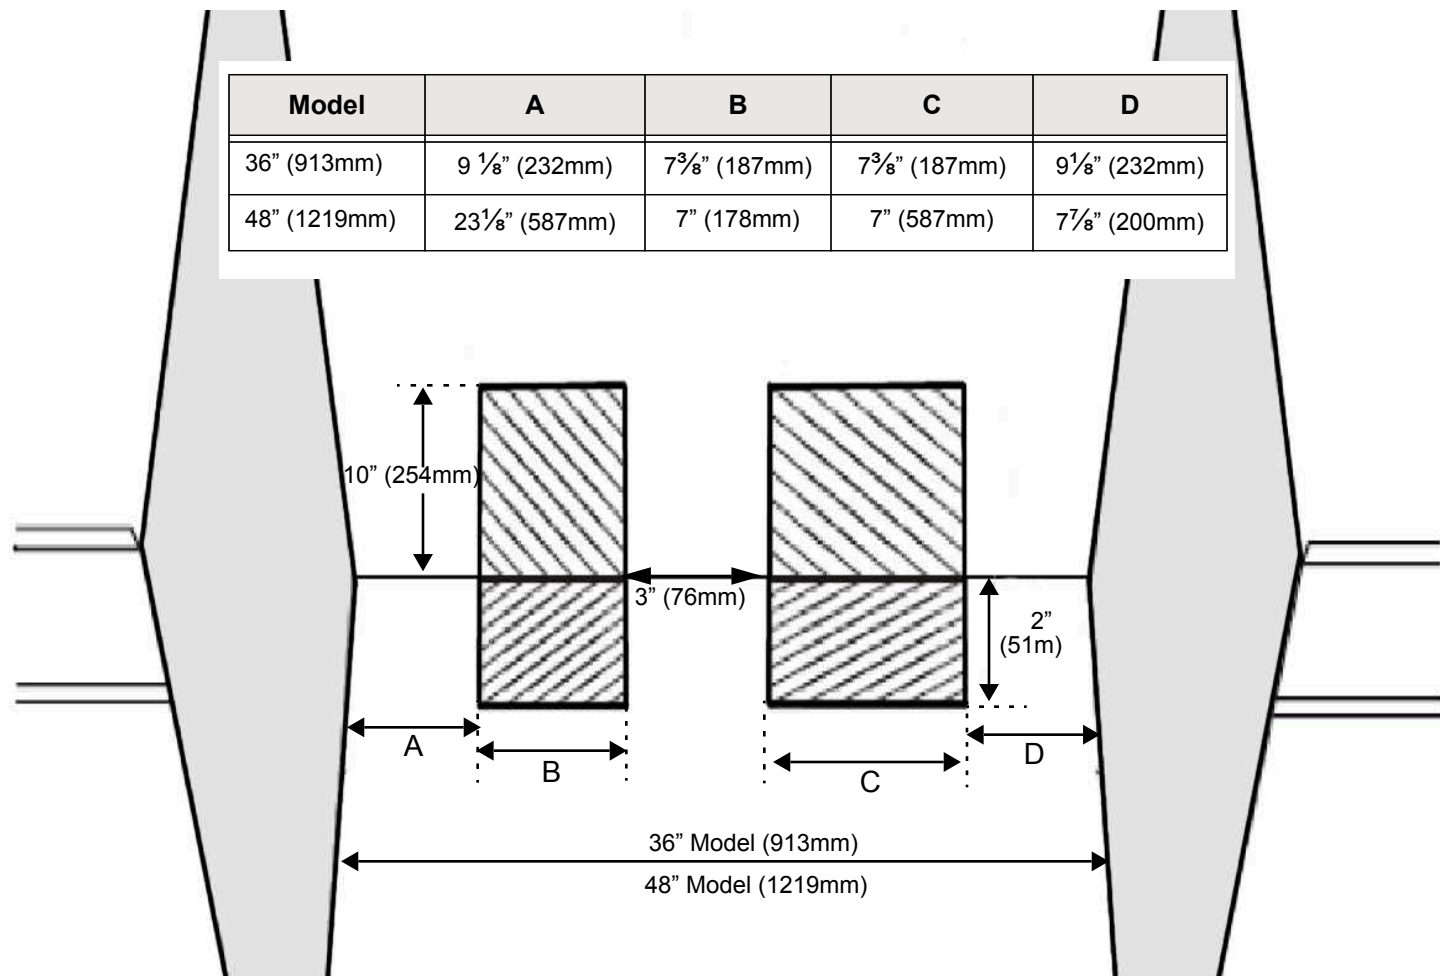

Figure 3: Gas & Electrical Supply Locations
- The gas and electrical supply should be within the zones shown in *Figure 3 on page 7*.